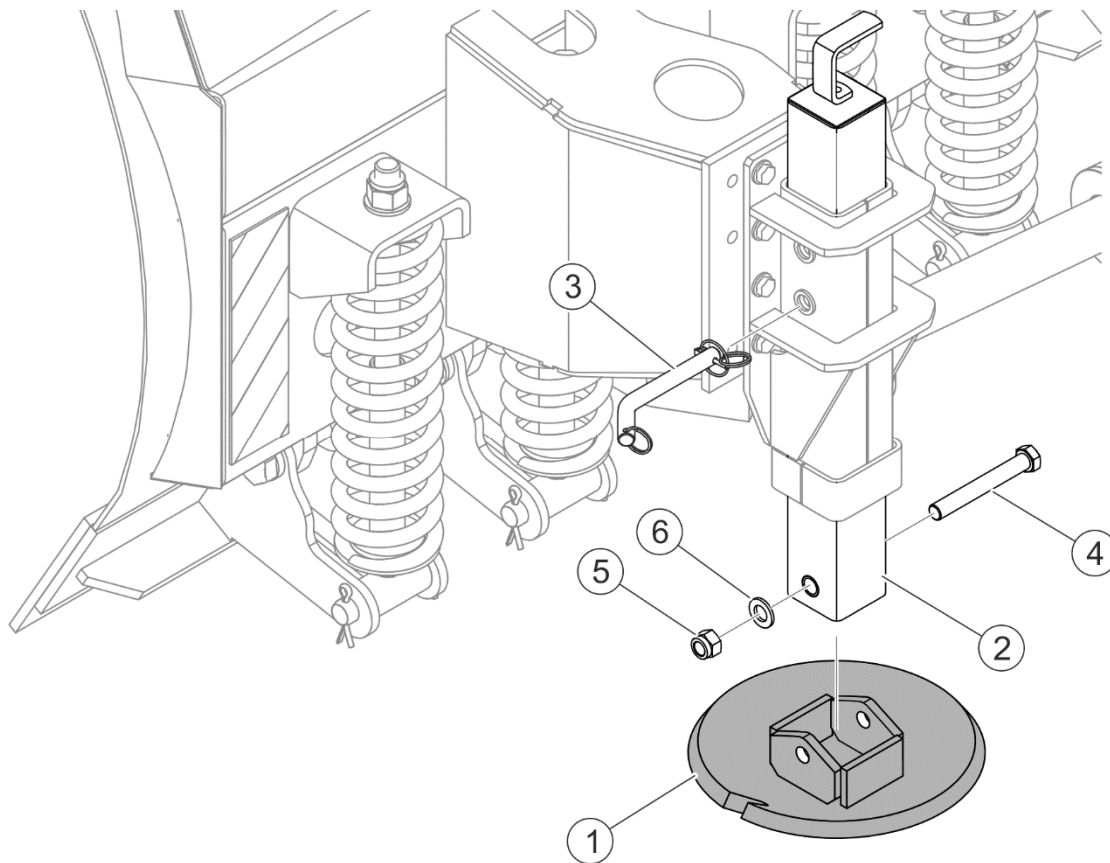

FIGURE 5.12 Slide replacement
(1) - slide; (2) - slider; (3) - pin, (4) - bolt; (5) - nut; (6) - washer
Excessively worn or damaged slide elements must be replaced with new ones (FIGURE 5.12). In order to do this, raise the snow plough and support it with sufficiently stable and strong supports. If the snow plough is hitched and raised on the front three-point linkage, protect it from falling and immobilise the carrying vehicle (turn off the engine and engage the parking brake). Undo nut (5), remove bolt (4) fixing slide (1) with slider (2). Check slide (1)
| Marking FIGURE 5.12 | Name / Catalogue No. | Quantity [pcs] |